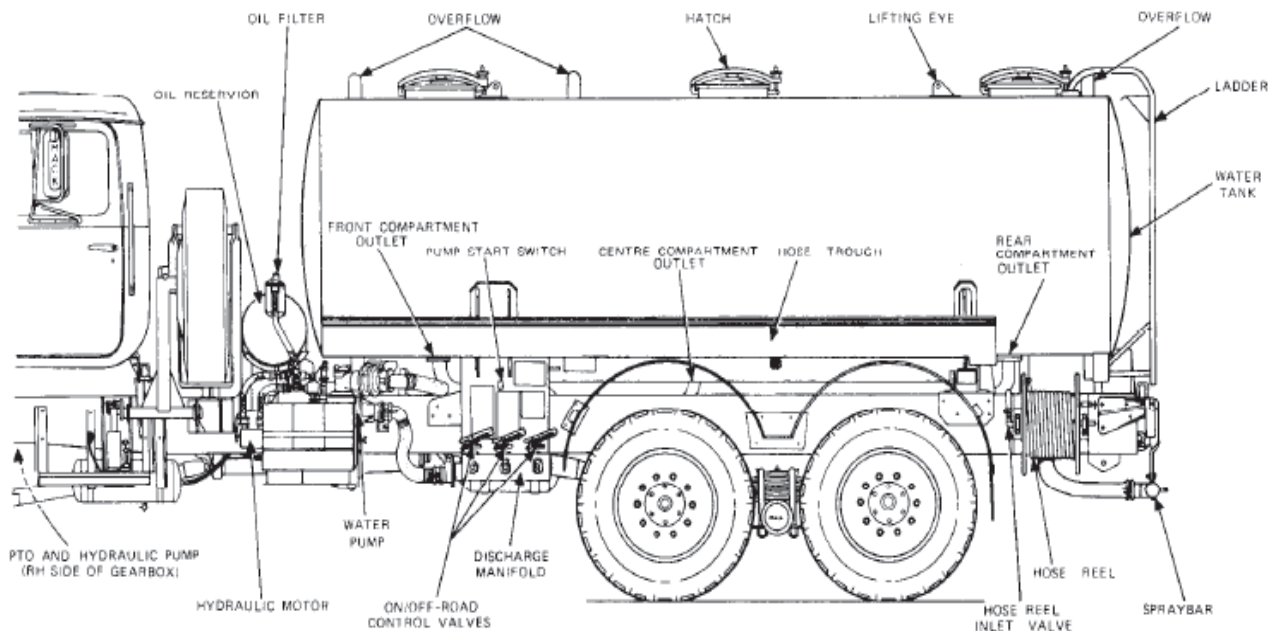
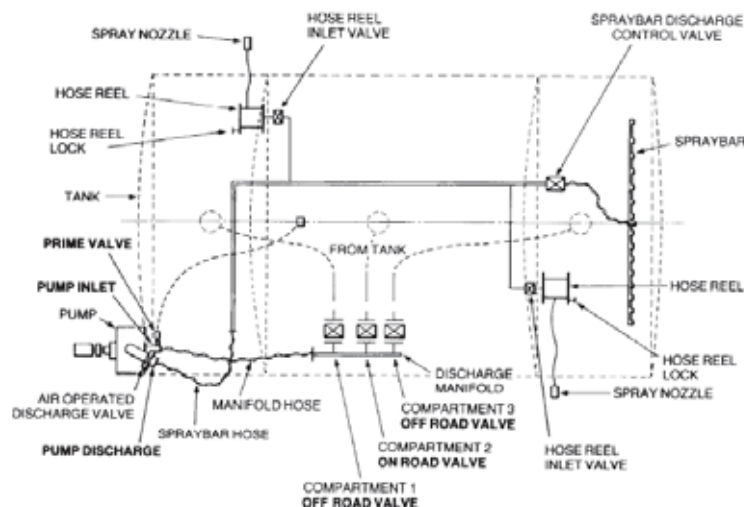

Figure 1 Location of Water Tank Sub-assemblies and Components
Figure 5 Layout of Water Pipes and Hoses
| Figure 1 Location of Water Tank Sub-assemblies and Components | 4 | Figure 12 Solenoid Operated Control Valve – Exploded View | 12 |
| Figure 5 Layout of Water Pipes and Hoses | 6 | Figure 16 Keystone Valve and Actuator Assembly – Exploded View | 14 |
4. The water tanker utilizes an aluminium three-compartment tank for water transportation. The water tanker comprises the following sub-assemblies and components (Figure 1):
10. A Finsbury three inch SPD water pump is fitted to the left-hand side of the truck, just behind the jerry can storage area. The purpose of the water pump is to pump water either into or from the tank compartments as required. Water pump operation is controlled by the PUMP START and the PUMP DISCHARGE switches which are located in the cab. The PUMP START switch is also located on the left-hand side of the truck, above the discharge manifold (Figure 1). Drive for the water pump is provided by the hydraulic motor via a Fenner coupling.
16. **On/Off Road Control Valves.** Each water tank compartment outlet is controlled by a hand operated butterfly valve (Figure 5). These valves control the flow of water to or from the water pump via the discharge manifold.
20. The water tanker is equipped with two hose reels, each fitted with a 20 metre PVC hose. One hose reel is located on the left-hand side of the truck (Figure 1), and the second is located on the right-hand side, below the oil reservoir. Adjacent to the second hose reel is a 60 metre lay-flat hose, which is housed in a metal frame and covered by a metal cover.
21. Four suction hoses, each 4080 mm long, are housed in the hose trough on the left-hand side of the truck (Figure 1). A foot valve and strainer assembly is fitted to the end of the suction hose when the water tanker is filled from an external source, such as a dam. Figure 5 illustrates the layout of the water pipes and hoses around the tanker.